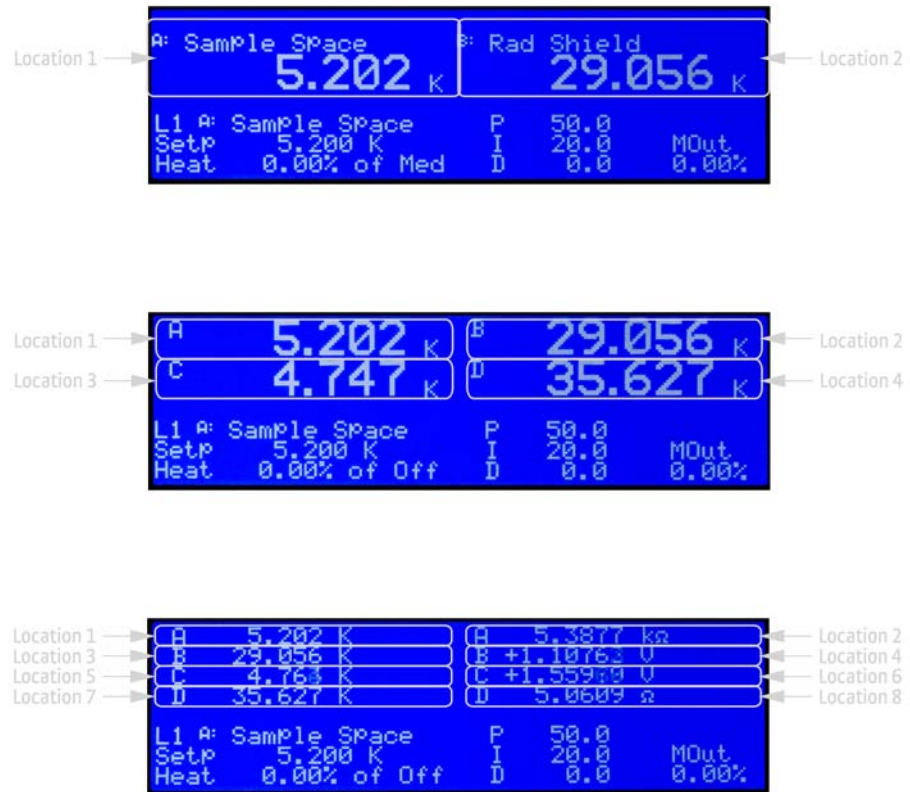

FIGURE 4-4 Top to bottom: Model 336 screen images showing 2, 4 and 8 display locations
- Locations:** depending on the Number of Displays parameter, there can be anywhere from 2 to 8 display locations for displaying sensor readings. The placement of a given display location on the front panel LCD depends on the Number of Displays setting (FIGURE 4-4).